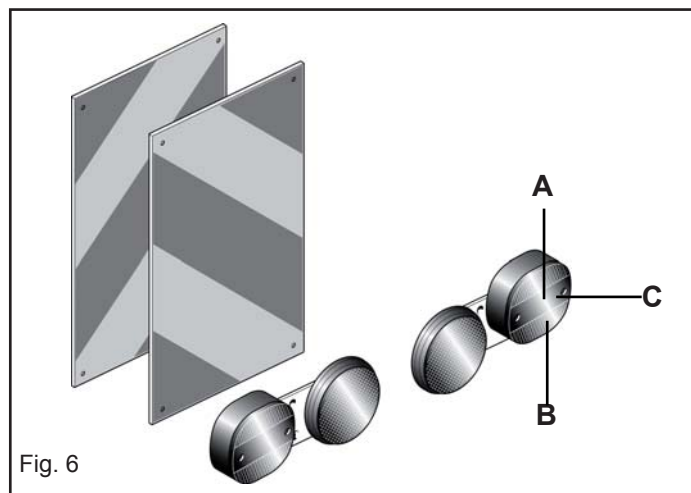

Fig. 6
- 8) When the dimensions of carried or partially-carried equipment conceal the tractor's signalling and lighting devices, these must also be installed on the equipment itself, in conformity with regulations of the highway code of the country involved. When in operation make sure that the lighting system is in perfect working order. It is also important to remember that the correct signalling sequence of the headlights includes (Fig. 6):